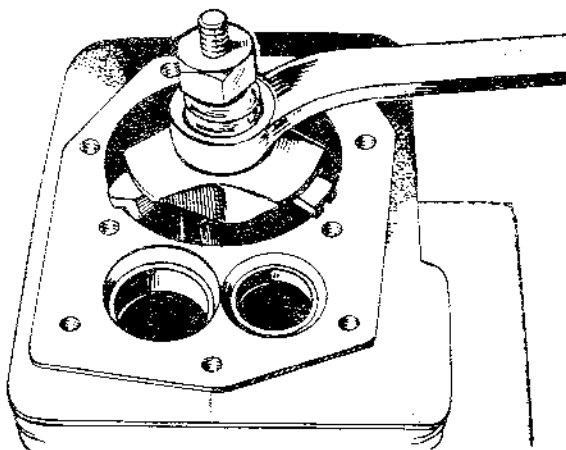

FIGURE 29. REMOVING RIDGE FROM CYLINDER
3. Remove carbon from top of cylinder bore and check for a ridge. Remove ridge (Figure 29) with a ridge reamer before attempting piston removal.